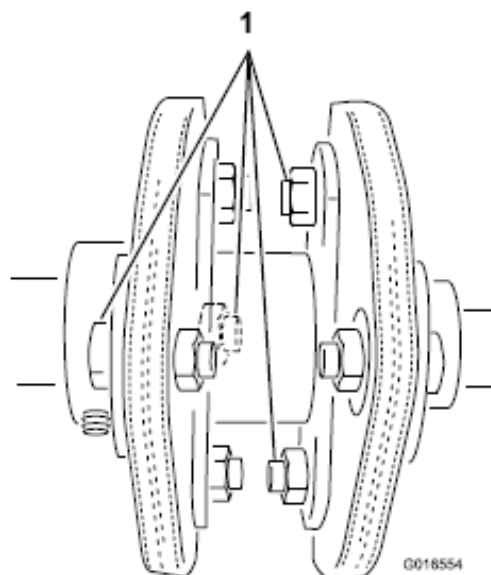

Figure 1
2. Remove the 4 bolts, 4 spacers, and 4 nuts shown in Figure 1 so that one rubber disk and the center coupler remain assembled.